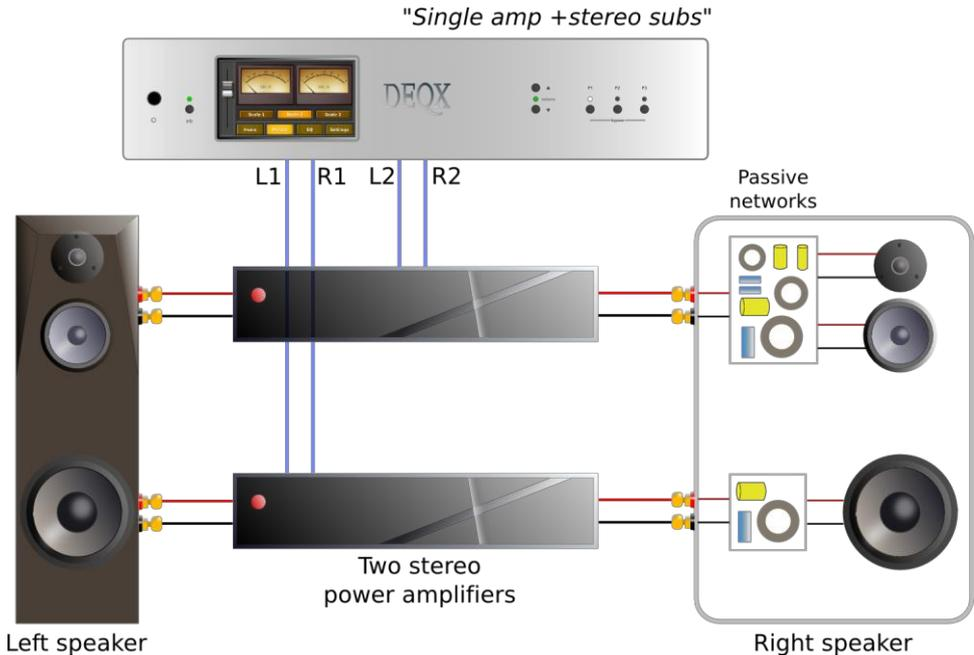

Figure 7. Hybrid active-passive three-way speaker
- Otherwise, use the "single amp with optional stereo subs" speaker configuration mode, with connections as shown in Figure 7 below. Some care will be needed if using limit filters between the woofer and mid-tweeter networks.